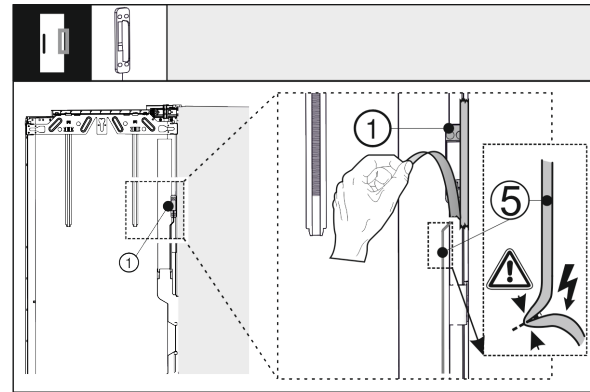

Fig. 40
- Loosen the knocking sensor Fig. 40 (1) from the outside door. Do not damage the connection cable Fig. 40 (5).